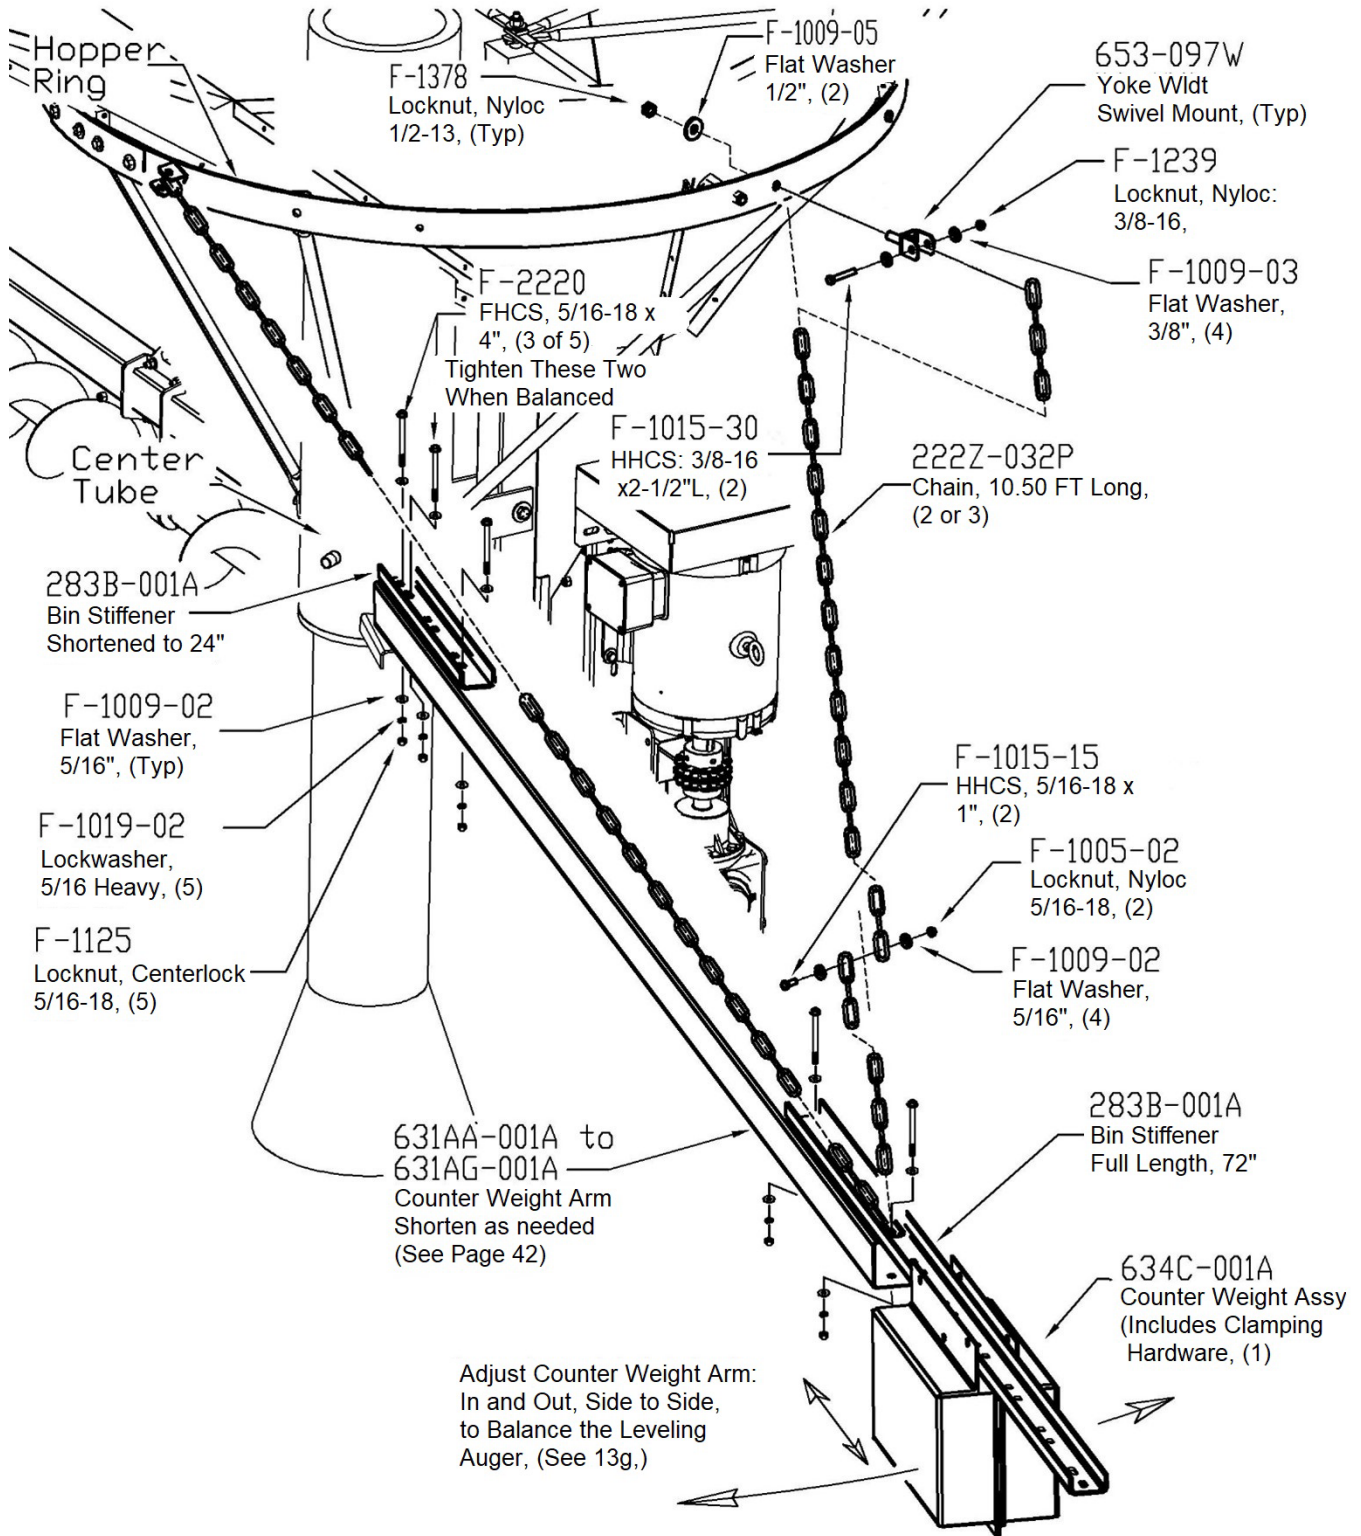

Fig 13.51b
**13e. Slide the Counterweight** 634C-001A onto the outside end as shown in Fig 13.51b, p.44.